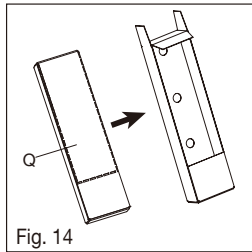

Fig. 14
- Tear the drilling template box (Q) according to the dashed line (see Fig. 14).